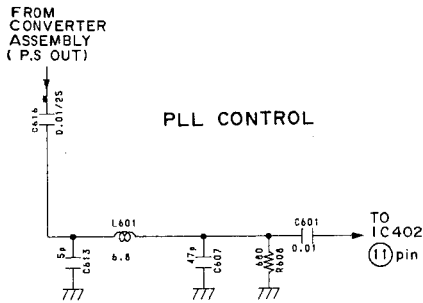

Fig. 21 Prescaler Filter
3. PLL Control (Fig. 21 to 23)
IC402 receives remote control, keypad, parental control, and other pertinent data: then compares this new data with previously received and stored data in the internal RAM. Also, a frequency divided signal (Pre-out) Fig. 21 is sent from the Converter Assembly to IC402 pin 11. These signals are processed internally